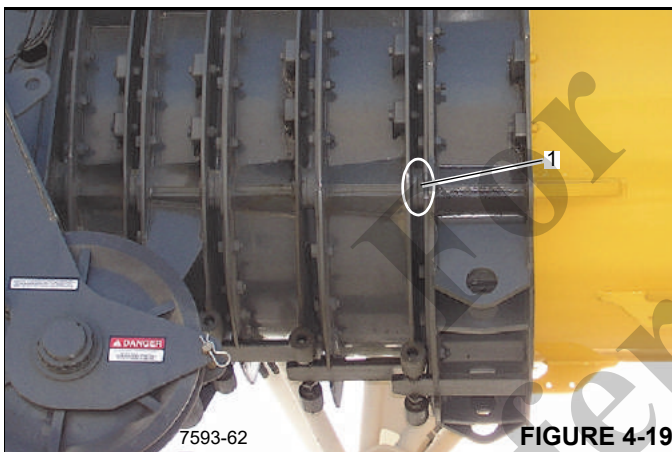

FIGURE 4-19
3. Remove the four sliders (2) and shims from the upper and lower rails in the rear portion of the section.
4. Remove the two bottom outer wear pads (3) and shims from the section.
5. Remove the two side outer wear pads (4) from the section.
6. Remove the two section pin assemblies (5):
- a. Remove connecting link (C-link) (6).
- b. Remove snap ring (7) in the OD groove of the guide tube. Remove pin assembly from the outside of the section.
7. Remove stop block plates (1) (Figure 4-19) and shims from the stop block mounting bosses on each side.